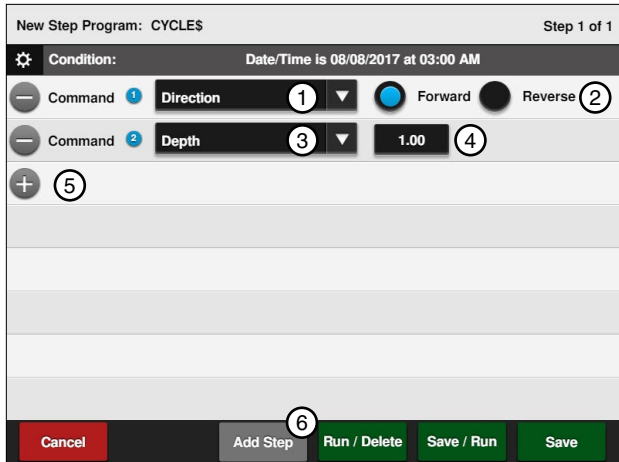

Figure 136-1 1. Direction Command 2. Forward 3. Depth Command 4. Inches 5. Add Command 6. Add Step
4. Enter the commands to be executed. Refer to Figure 136-1.